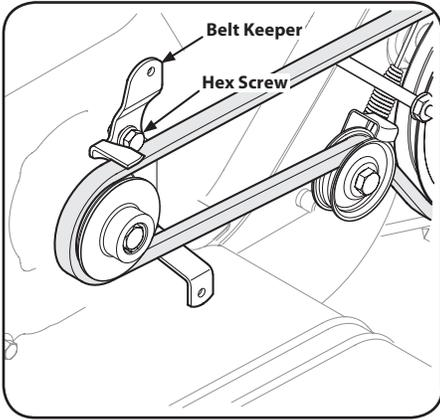

Figure 5-4
4. Using a 1/2" wrench, remove the hex screw securing the belt keeper to the engine. See Figure 5-4.